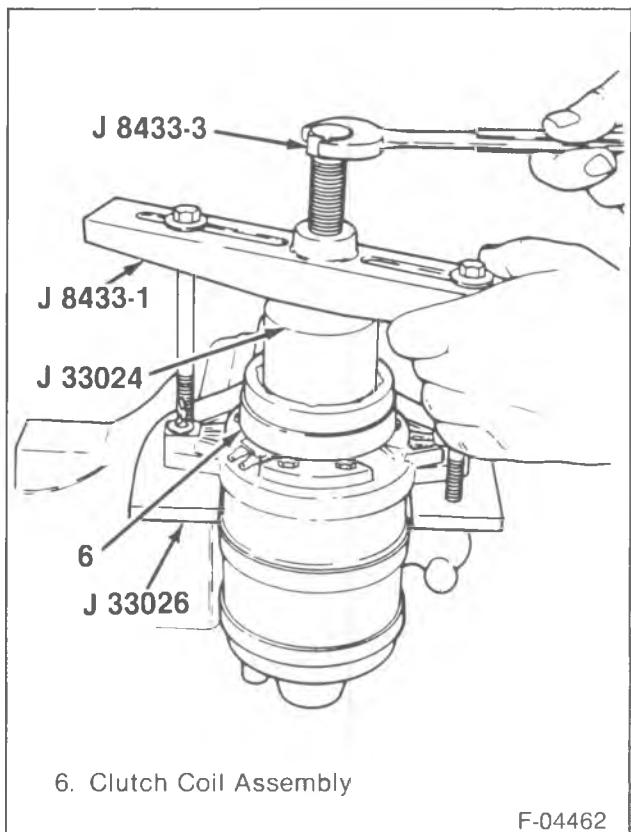

Figure 17—Removing the Clutch Coil Assembly
1. Clutch plate and hub assembly (2).
2. Pulley (5).
- Mark or scribe the location of the clutch coil (6) to terminal on the compressor front head (11).
3. Clutch coil assembly (6).
- Install J 33023-A on the head (11) of the compressor.
- Install J 8433-1 with J-33025 (figure 17).